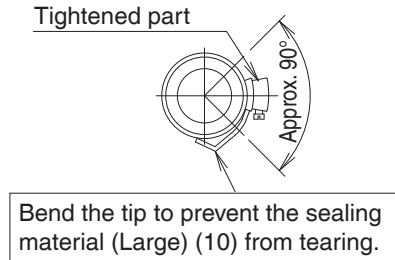

Fig. 16
- Do not tighten the metal clamp (2) with the torque more than the specified value. The drain hose (1), the socket or the metal clamp (2) may be damaged.
- Wrap vinyl tape around the end of the metal clamp (2) so that the sealing material (Large) (10) to be used at the next process may not be damaged with the clamp end or bend the tip of the metal clamp (2) inward as shown. (**Refer to Fig. 16**)